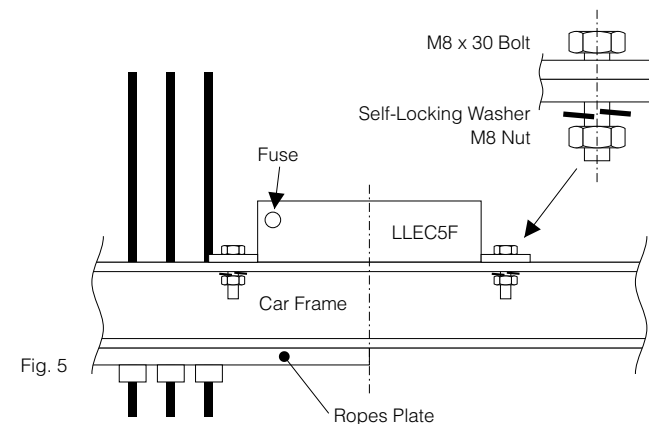

Fig. 5
5. Place the LLEC5F device fitted with the holes so that the net fuse is visible (Fig.5).